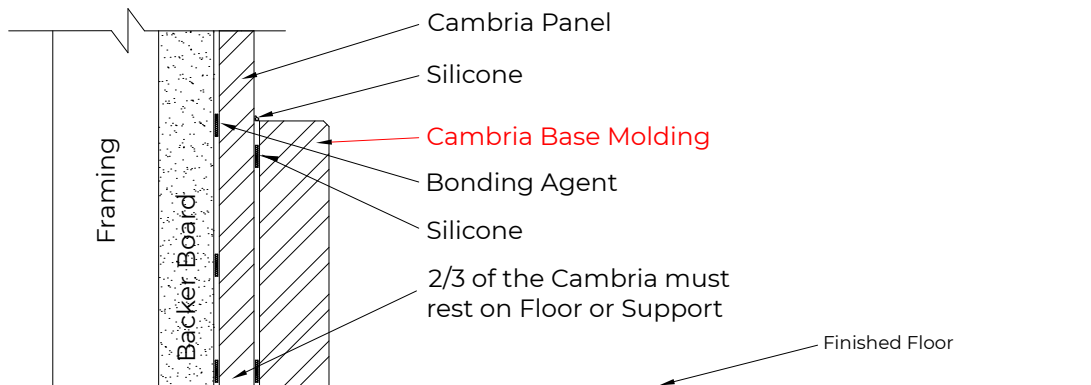

FIGURE 9
- Apply bonding agent on each end and in the middle of the ceiling molding. See Figure 9
- a. Apply a dollop of silicone on each end and in the middle of the base molding. See Figure 9.
- b. A thin bead of silicone should be placed across the top of the base molding where the molding meets the Cambria panel, as well as any pieces that seam together. See Figure 9.